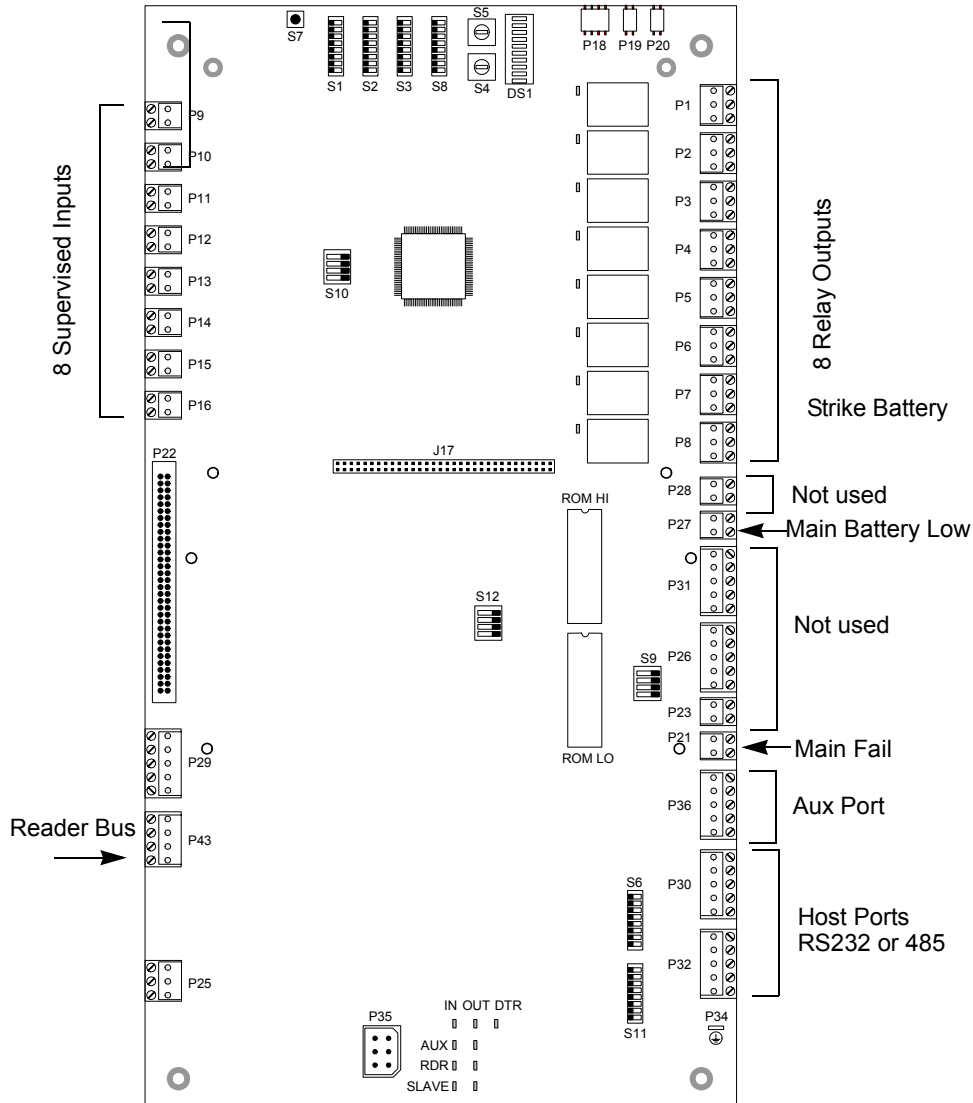

Figure 2.1: Ports to Connect External Devices to apC/8X Main Board
- Figure 2.1 shows the groups of ports reserved for connecting specified types of devices.
Figure 2.1 shows the groups of ports for connecting specified device types.